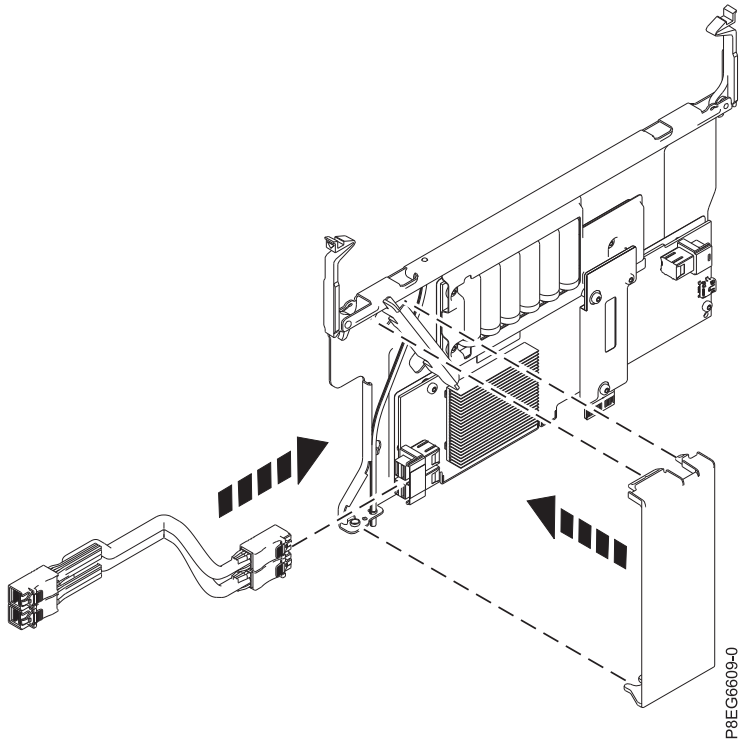

Figure 6. Installing the air flow cover on the PCIe3 x8 cache SAS RAID internal adapter 6 Gb that is installed in location P1-C15
3. If you are replacing the PCIe3 x8 cache SAS RAID internal adapter 6 Gb in location P1-C15, install the air flow cover. Place the tab on the bottom of the cover into the hole in the PCIe3 x8 cache SAS RAID internal adapter 6 Gb assembly. Push the top of the cover until it latches into place on the PCIe3 x8 cache SAS RAID internal adapter 6 Gb assembly. See Figure 6 on page 9.